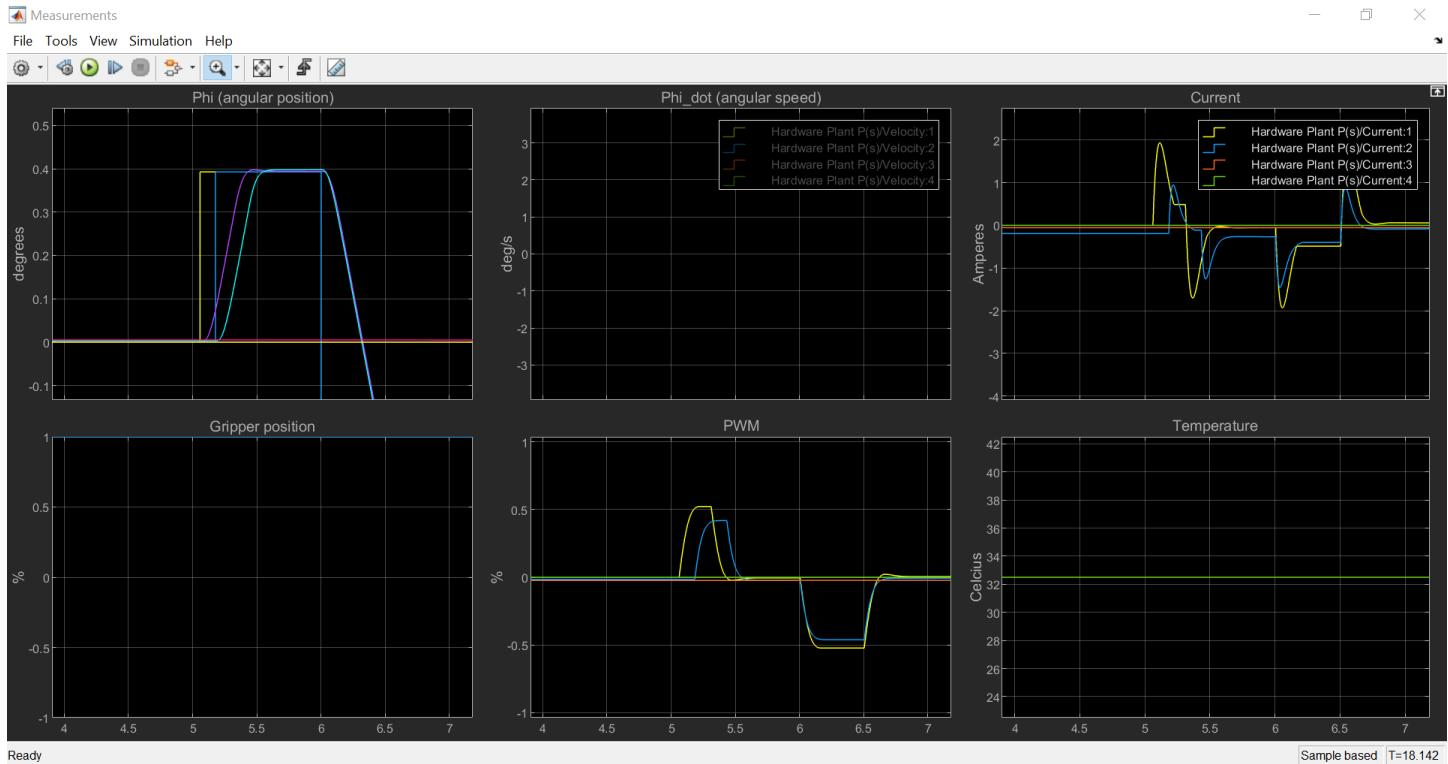

Figure 2: Sample results showing the base and shoulder joints following commanded setpoints
8. Toggle the manual switch labeled **MAIN** away from **Default Cmd** to enable commanding each of the joints a square waveform. Using the **Measurements** scope verify that each joint follows the commanded setpoint. Sample results are shown in Figure 2.